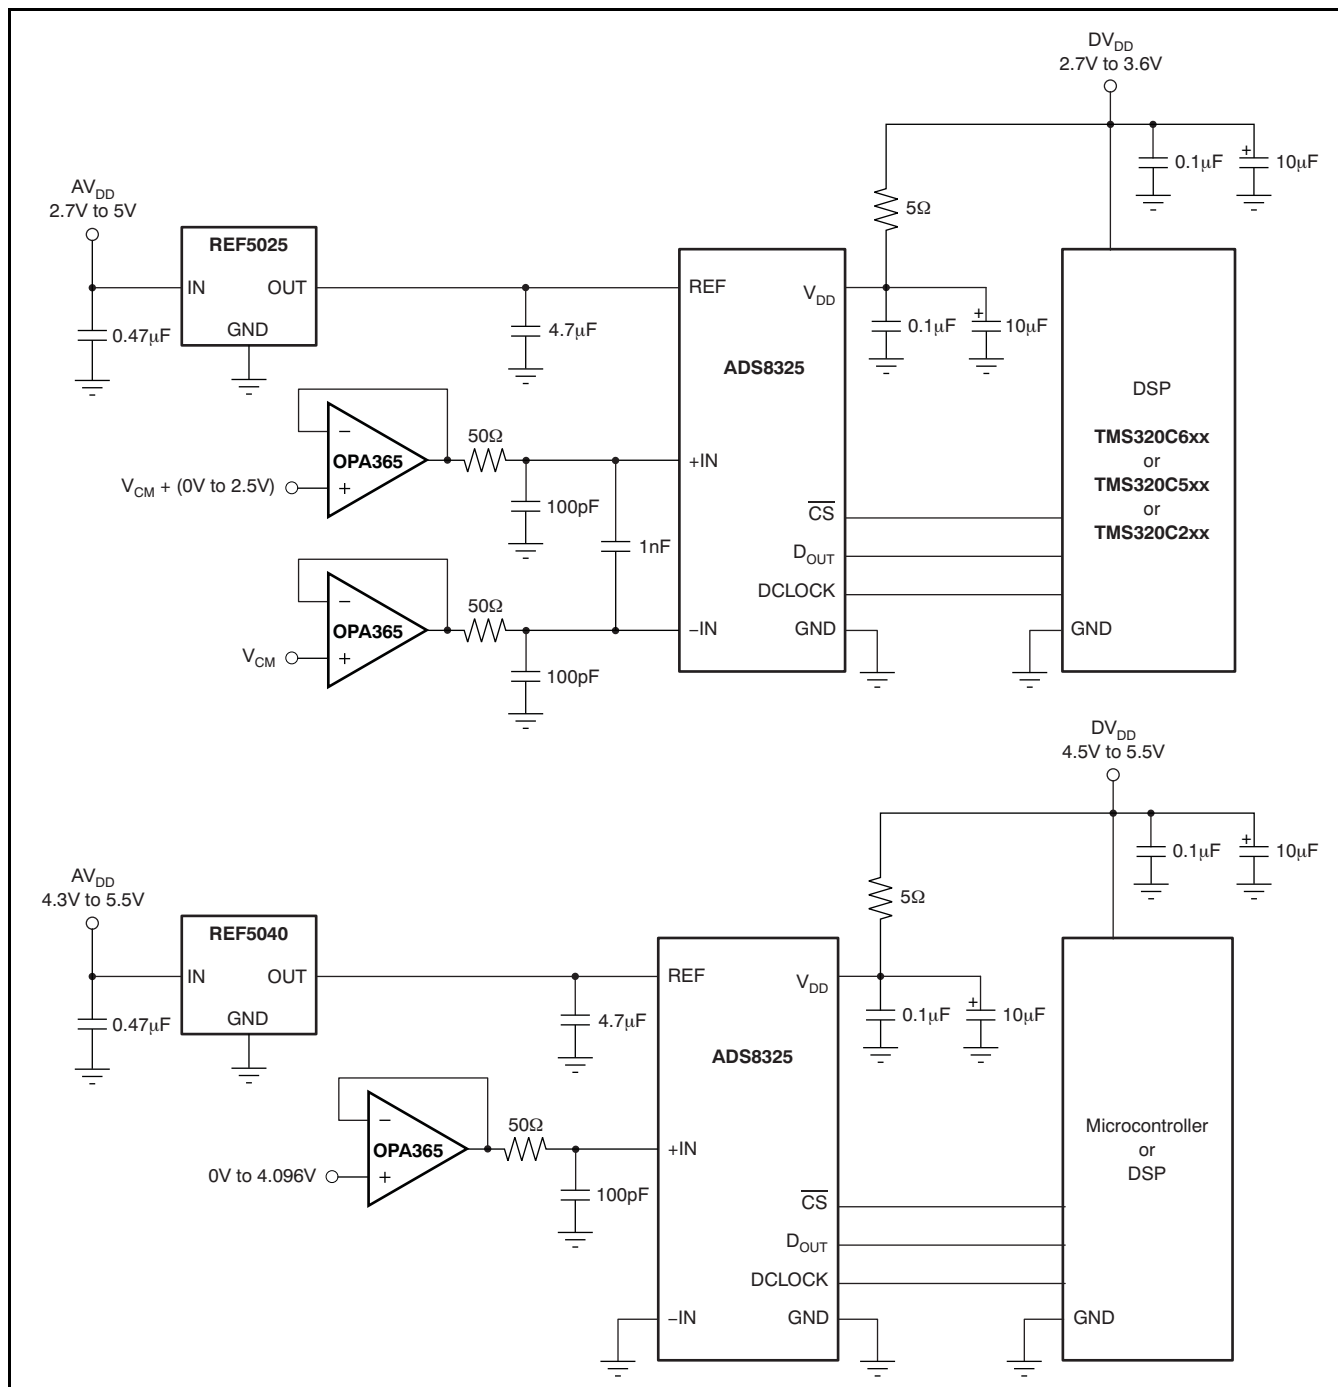

Figure 39. Two Examples of a Basic Data Acquisition System
Figure 39 shows a basic data acquisition system. The ADS8325 input range is connected to 2.5V or 4.096V. The 5Ω resistor and 1μF to 10μF capacitor filters the microcontroller noise on the supply, as well as any
- Changed Figure 39 23